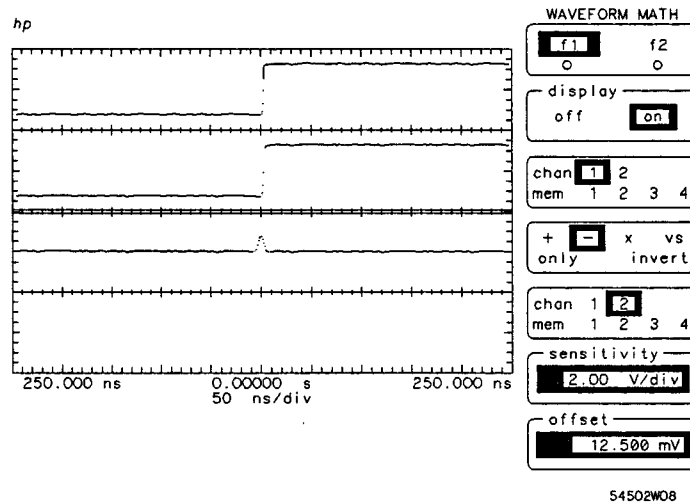

Figure 9-5. Channel 1 minus Channel 2
- Press TIMEBASE and set the horizontal display to 50.0 ns/div (see Figure 9-5) . This display is best viewed when the oscilloscope is in repetitive acquisition mode.